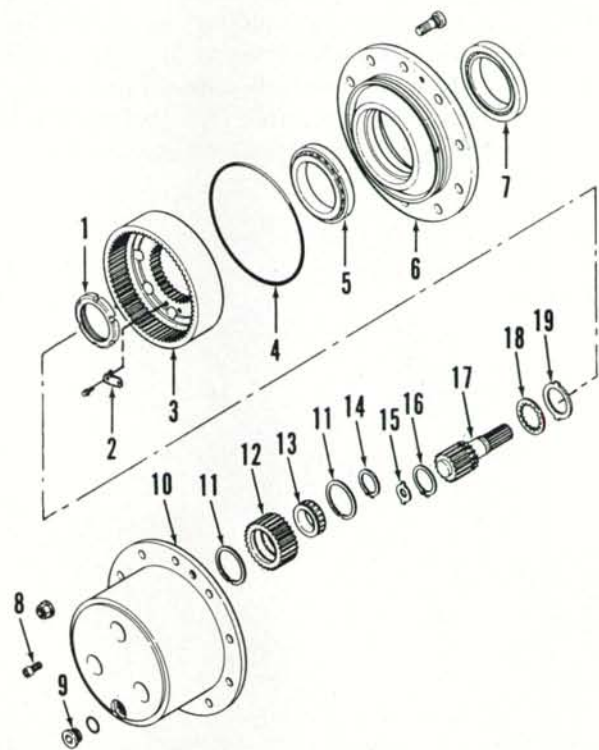

Fig. 6—Exploded view of wheel hub and planetary unit used on front drive axle.
8. R&R AND OVERHAUL. To remove the wheel hub and planetary, support axle housing and remove wheel and tire assembly. Rotate wheel hub until drain plug (9—Fig. 6) is at bottom, remove plug and drain oil. Remove the two socket head screws (8), then remove planetary carrier (10). Unbolt and re-
move lockplate (2). Using a spanner wrench CAS-1762 or equivalent, remove slotted nut (1). Remove ring gear (3), outer bearing cone (5), hub (6) and inner bearing cone (7). If necessary, remove bearing cups (5 and 7), oil seal (1—Fig. 7) and dust seal (2) from hub. Sun gear (17—Fig. 6) is secured to axle shaft "U" joint (11—Fig. 7) with a snap ring (10). If necessary to remove sun gear, remove pivot housing (5) as outlined in paragraph 9.
To remove planetary gears (12—Fig. 6), remove snap rings (14) and slide gear and bearing assemblies from carrier (10). Remove tapered retaining ring (11) and slide bearing (13) from gear (12). Repeat operation for other two gears. Remove thrust washer (15) from center of carrier.